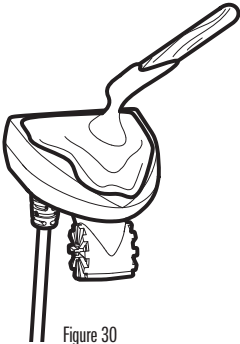

Figure 30
4. Mix an ample quantity of two-part slow cure epoxy slowly and thoroughly. Avoid trapping air bubbles (Figure 30).